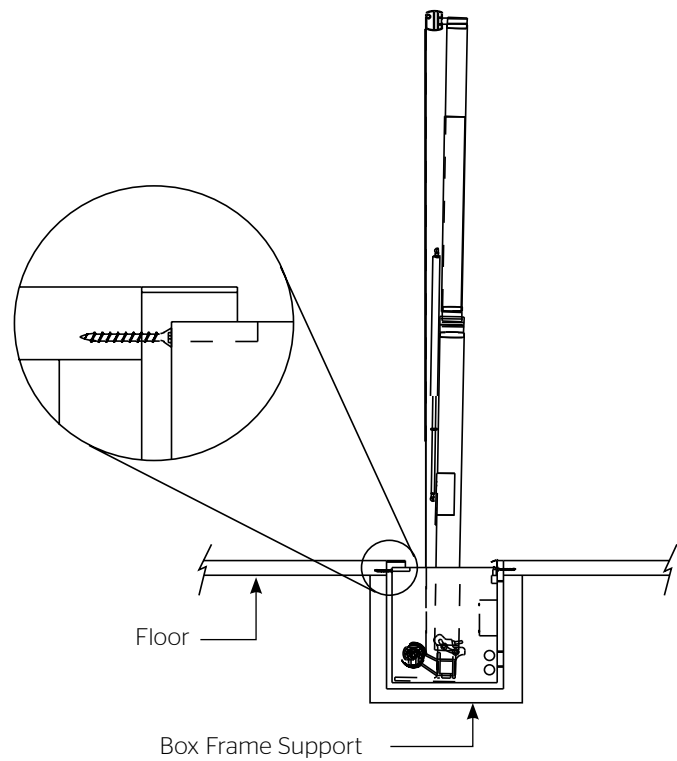

Figure 2
2. For installations where the Ascender will be recessed into the floor, the box must be secured in at least six places (recommended hardware is #12 x 2" L wood screws)(Figure2).